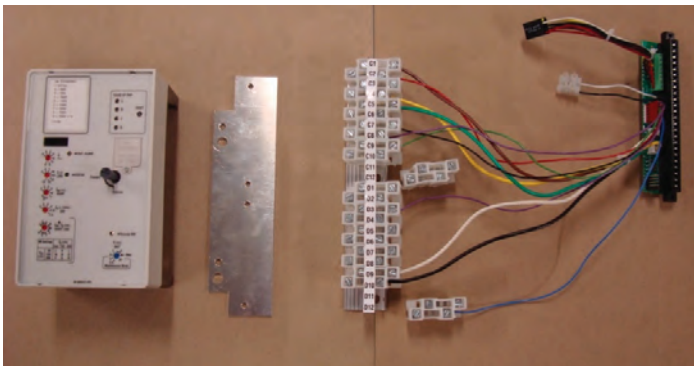
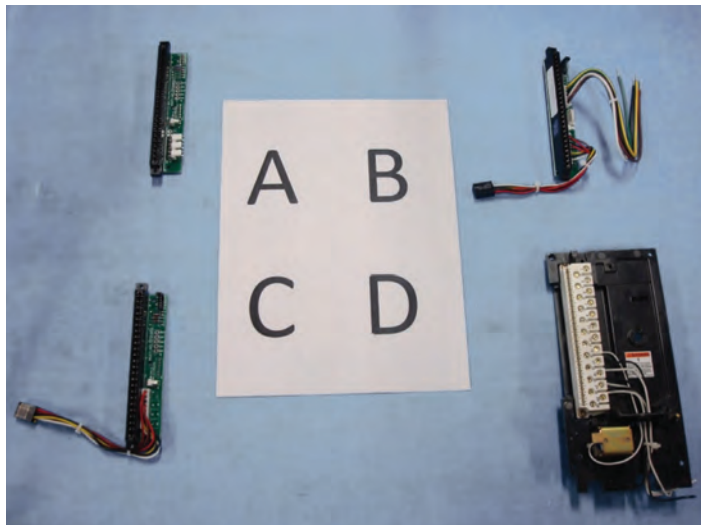

Figure 25. Retrofit Parts.
Figure 27. Possible Edge Connector Assemblies in the Field.
Figure 25 shows the components that are included in an RG Retrofit Kit. The trip unit is a typical sample, and the one shown in Figure 25 has the visible option of Arc Reduction Maintenance System (ARMS) in a ground fault (GF) trip unit. Actual kit trip units will vary, depending on order requirement. Contents include:
Figure 27 shows the four possible connectors on existing RD breakers with RES trip units.
The FTST connections, white and black wire pair from original terminals 14 and 15 (or connector J6), will need to be attached to the new wires and terminal block that connect to the retrofit edge connector board at J6 (black to black, white to white). To transfer the three sets of CT wires found in a 3-pole 1600A frame with edge connector board (Figure 27, Item A), to the RG retrofit edge connector board as seen in Figure 25, complete the steps that follow.
3. 1600A non-ground fault frames with “old” white terminal block/edge connector (Type D in Figure 27) are all hard wired (no connectors) and must be removed and replaced with Eaton’s new terminal block system.
5.5 Four Possible Edge Connector Types Exist for RD Breakers with RES Trip Units: (Refer to Figure 27)
1. Fig. 27, Ref. A - Used in 1600A non-GF 3-pole frames. All three phases and FTST have white 2-pin pluggable mating connectors. There is only one override diode and it is fixed.
2. Fig. 27, Ref. B + C - Used in 2000A and 2500A non-GF frames that have an Auxiliary CT board inside referred to as a “green board”. The override diode is jumper (J8) selectable per the frame rating.
3. Fig. 27, Ref. B + C - Used in all three GF frame ratings (1600A, 2000A, and 2500A) with “green board”. The override diode is jumper (J8) selectable per the frame rating.
4. Fig. 27, Ref D - White terminal block/edge connector – Oldest type used for all three frames, GF or non-GF, 3-pole and 4-pole – all CT and FTST connections are wires that terminate in the terminal block via screw down terminals. Override diode (frame rating specific) installed in terminals 10 + 11.